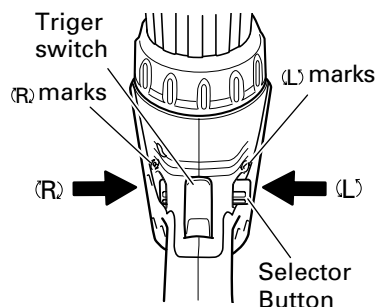

Fig. 12
The L-side of the selector button is pushed to turn the bit counterclockwise. (See Fig. 12) (The (L) and (R) marks are provided on the body.)